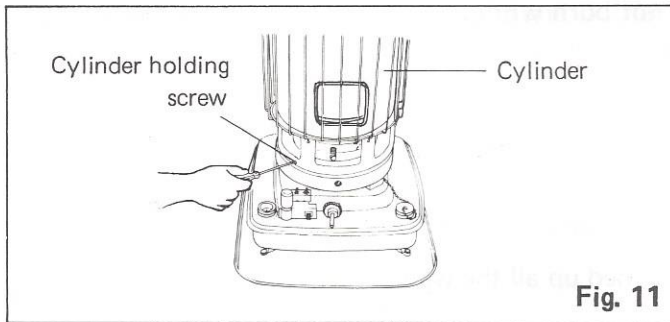

Fig. 11
2. Loosen the four cylinder holding screws and remove the cylinder from the fuel tank. It will come off with the burner tube. (Fig. 11)